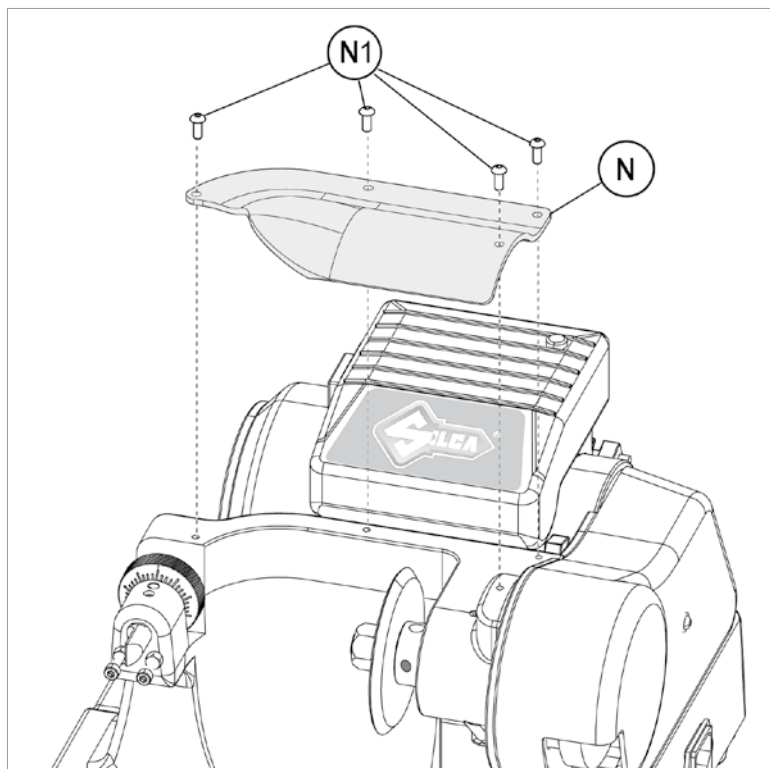
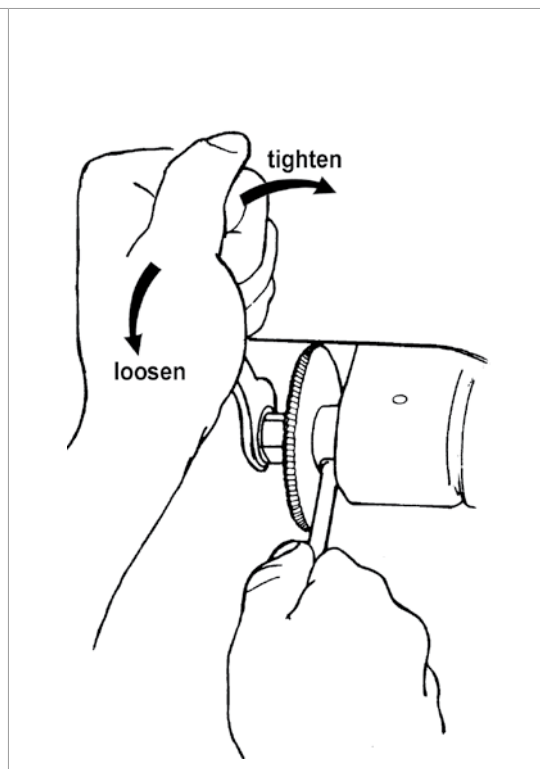

Fig. 29
Fig. 30
- 1) Remove the cutter locking screw (N1) and remove the cutter protective shield (N) (Fig.29).
- 2) Slot the locking rod (provided) into the hole (F1) of the cutting tool shaft (Fig.29 and Fig.30).